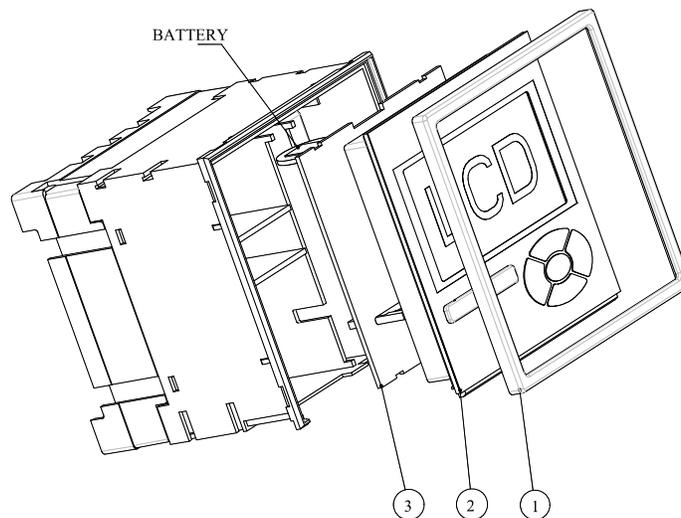

FIGURE 16-1: BATTERY REPLACEMENT
2. Remove frame [1] from the instrument (see Figure 16.1).